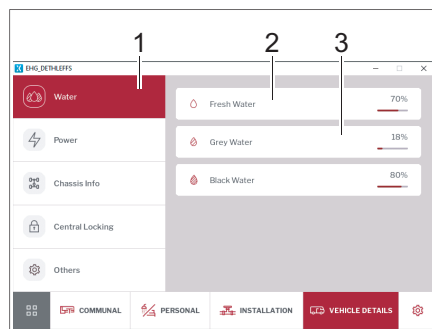

Fig. 268 Water supply
- Click on the *Water Supply* (Fig. 268,1) button. The fill level in the fresh water (Fig. 268,2) and waste water tank (Fig. 268,3) will be displayed in %.